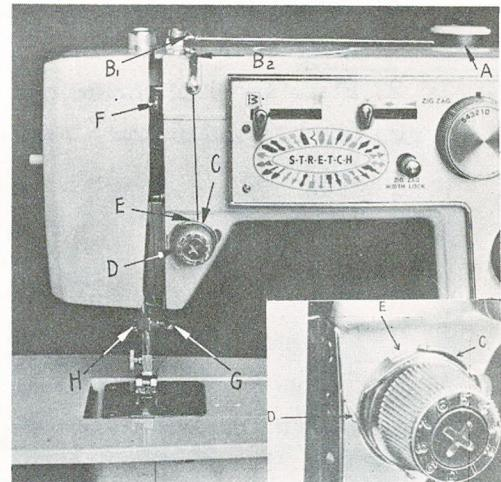

Fig. 10
## THREADING THE MACHINE (See Fig. 10 &amp; 11)
- 1) Turn balance wheel toward you to raise take-up lever (F, Fig. 10) to its highest point.
- 3) Lead thread through arm thread guide B1 to B2, Fig. 10.